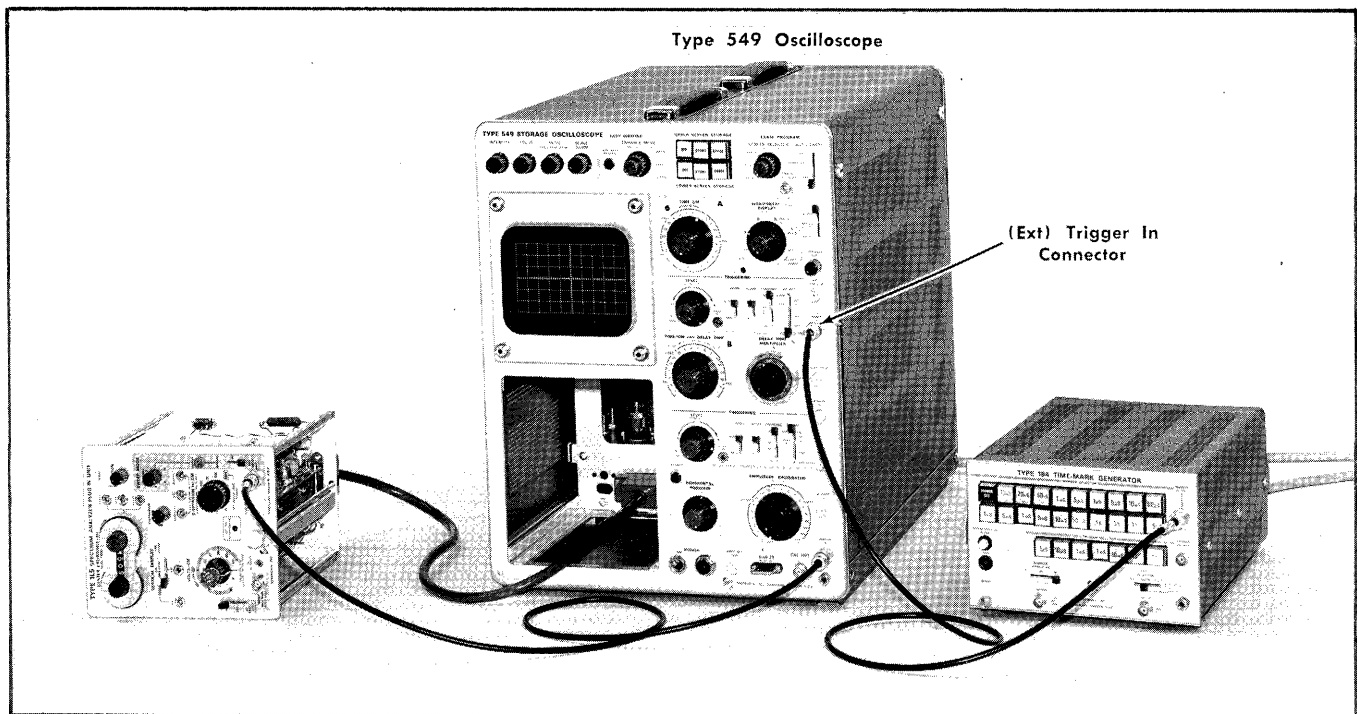

Fig. 6-14. Equipment setup for adjusting the 5 kHz Calibrator.
a. Equipment setup is shown in Fig. 6-14.